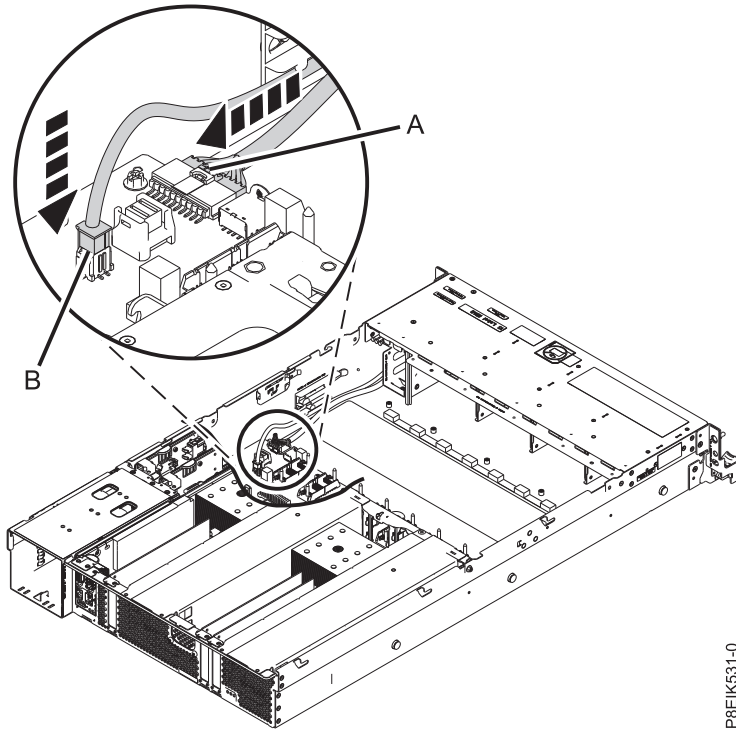

Figure 111. Location of the front USB cable and power switch and cable
6. Using the labels, plug the front USB cable (A) and the power switch and cable (B) to the system backplane as shown in Figure 111 on page 92. Ensure that the cable latch clip snaps into place on the connectors.